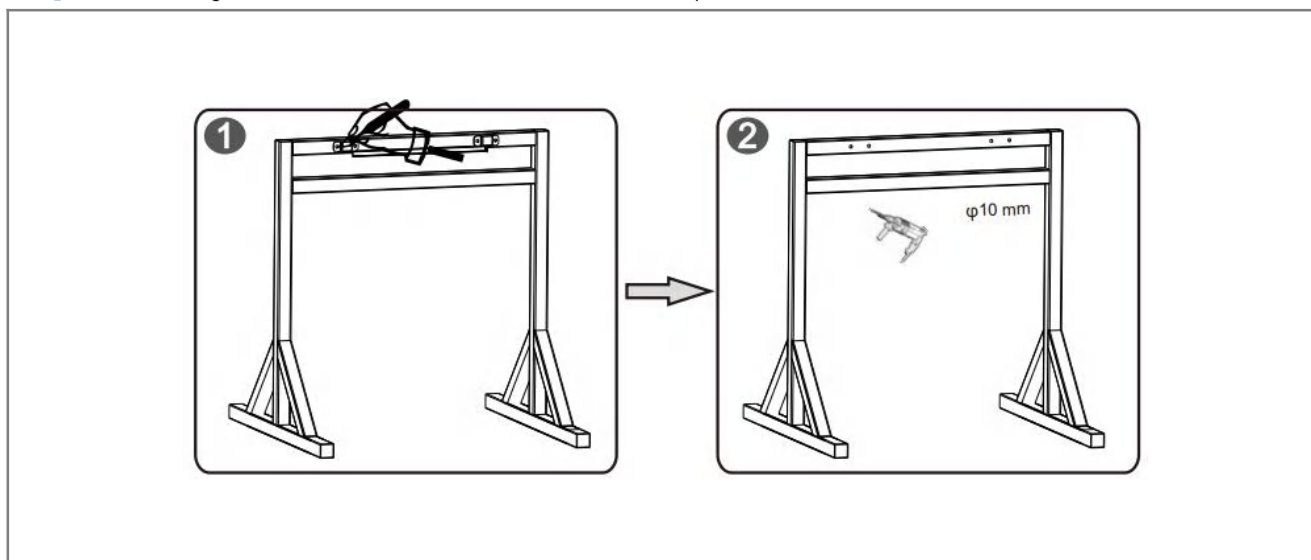

Figure 2-7 Schematic diagram of backplane of the inverter
Figure 2-7 shows the installation process of the backplane of the inverter. Take the backplane (or according to the dimensions of the backplane) measure the positions of the mounting holes on the bracket, and mark them with a marker. Install the backplane with M8*60 bolts on the bracket, and hang the inverter on the backplane. Fix the M6 screws on the side. At this moment, the installation is completed.
Step 1: Determine the punching position according to the inverter installation dimensions drawing shown in Figure 2-7. Measure the dimensions using a level, and mark the puncturing area using a marker.